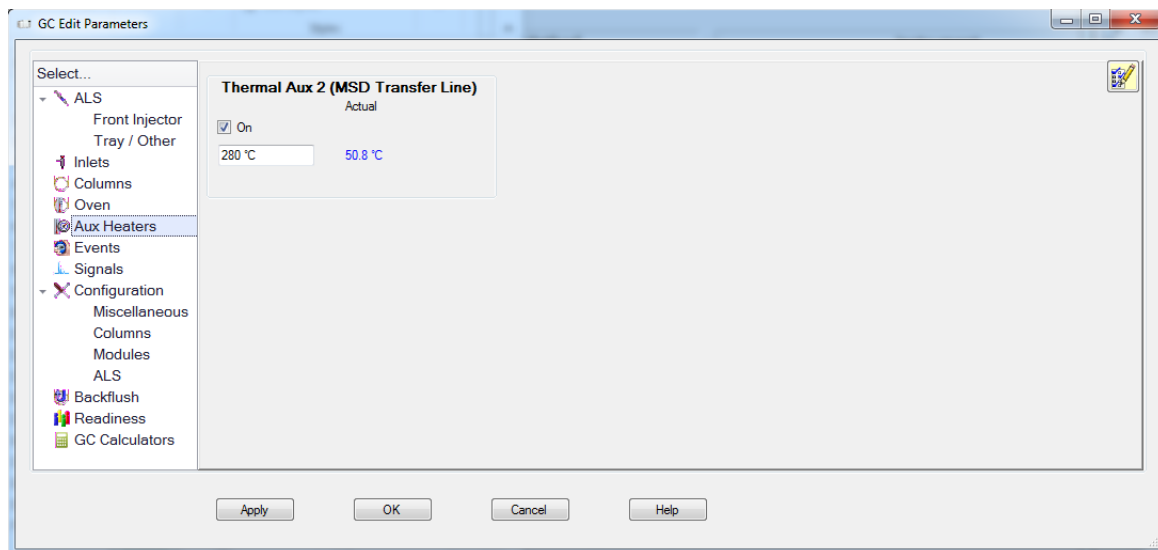

Figure 38 8890 GC edit parameters window
- 2 Click the **Aux Heaters** icon to edit the interface temperature. (See **Figure 38**.)